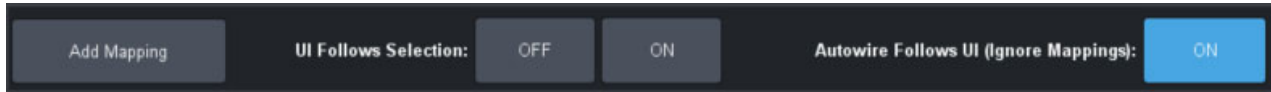

Figure 114 - Autowire Follows UI — ON
2. If your Vision[Ai]ry system has multiple channels, or if you want the USB controller to be able to adjust framing only when the **Channel Control** page is currently active in DashBoard, click the **Autowire Follows UI** button (Figure 114), and then skip the remaining steps.